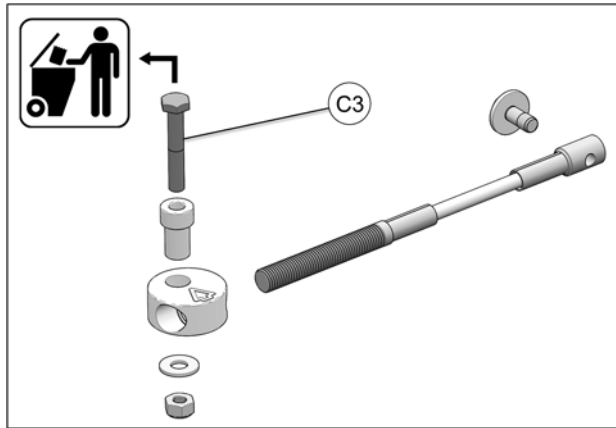

Fig. 24
15. Discard the M10x60mm bolts (C3) included in the Steering limiter parts kit. See Fig. 24